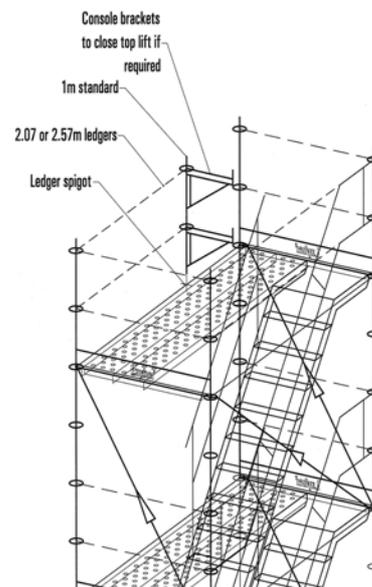

FIGURE 7.
18. Finish the top lift with 3m standards to support double handrails. Layout is variable to suit different exit points (Figure 7)